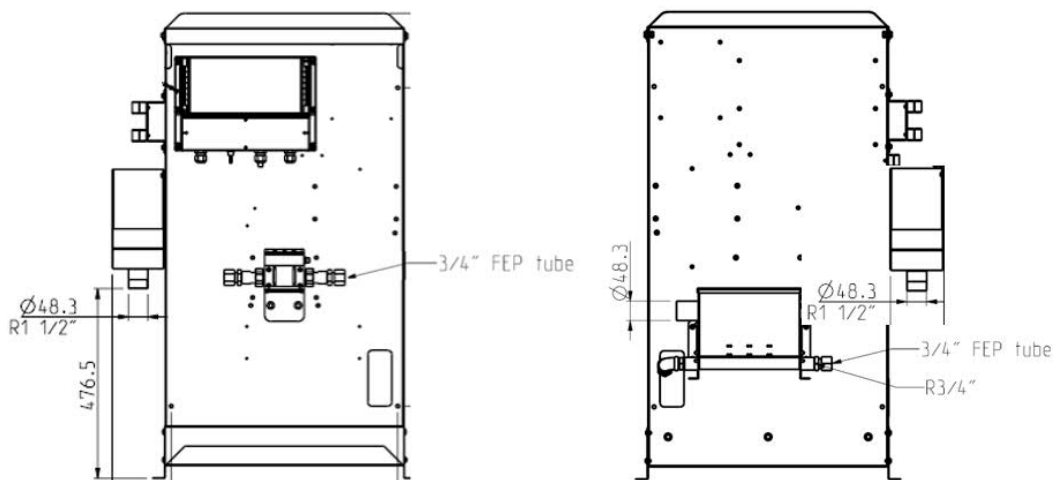

Figure 17. Sample line and discharge connections. Headbox sensor front view on the left, white water sensor with sample pump backside view on the right side.
- Headbox sensor discharge is R1 1/2" from laboratory sample funnel (figure 17 left side)
- Sample line connector of headbox and white water sensor without pump is R3/4" PP (for 3/4" FEP tube, see figure 17 left side).
- Sample line connector of white water sensor with pump is R3/4" PP (for 3/4" FEP tube). Sample line is connected to deaeration module (see figure 17 right side).